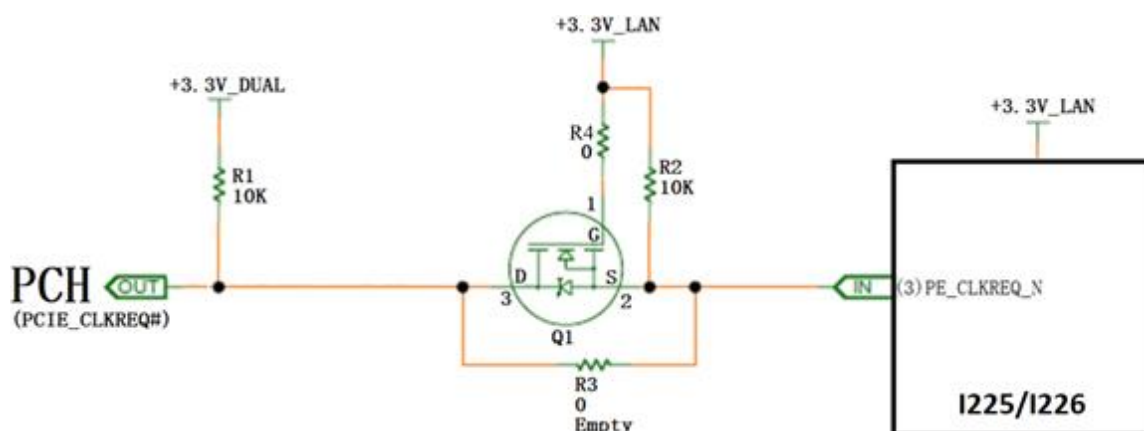

Figure 1-16: Leakage Protection Circuit
1. **Using the basic logic MOSFET device:** This circuit is very similar to the leakage current protection (as shown on Figure 1-16. Leakage Protection Circuit)